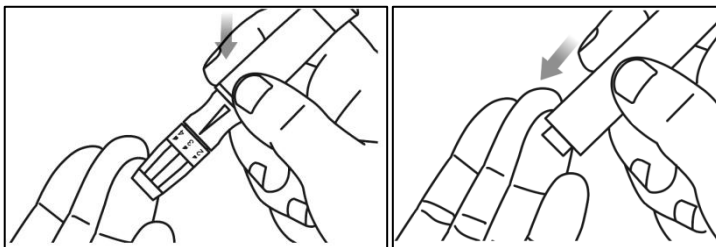

Fig 5.35
Step 8: Hold the lanceting device against the side of the finger to be pricked with the cover resting on the finger. Push the release button to prick the fingertip. A click should be heard as the lanceting device activates. Gently massage from the base of the finger to the tip of the finger to obtain the required blood volume. (Safety lancet can also be used to prick the finger) (Ref Fig 5.35).